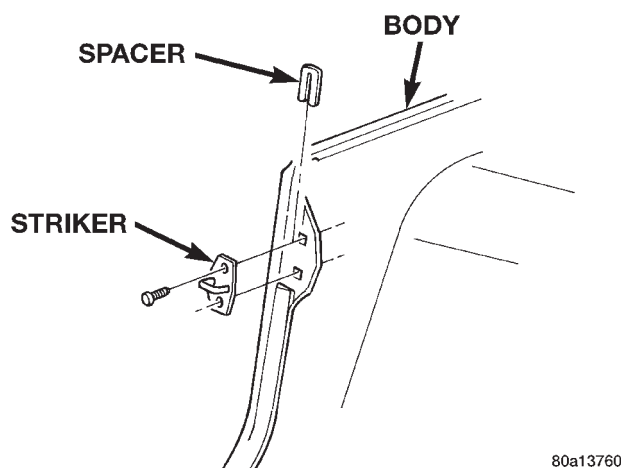

Fig. 39 Latch Striker
- (1) Remove the screws attaching the striker to the body.
- (2) Separate the striker and the spacer from the body (Fig. 39).